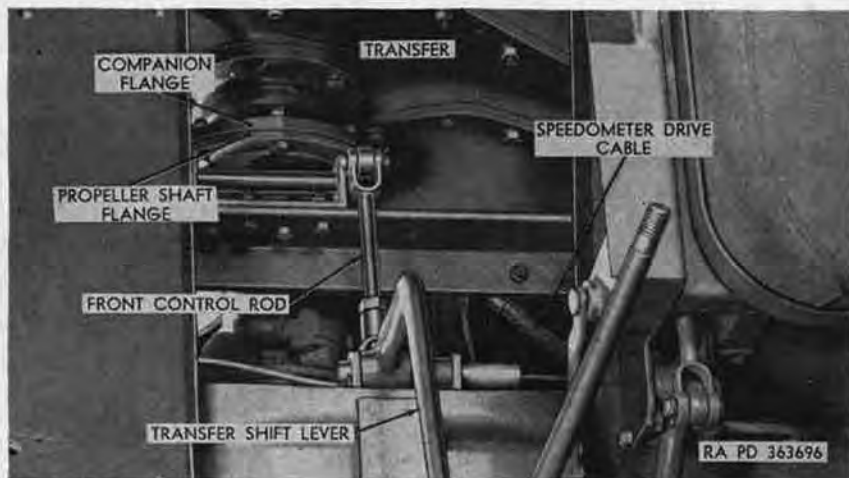
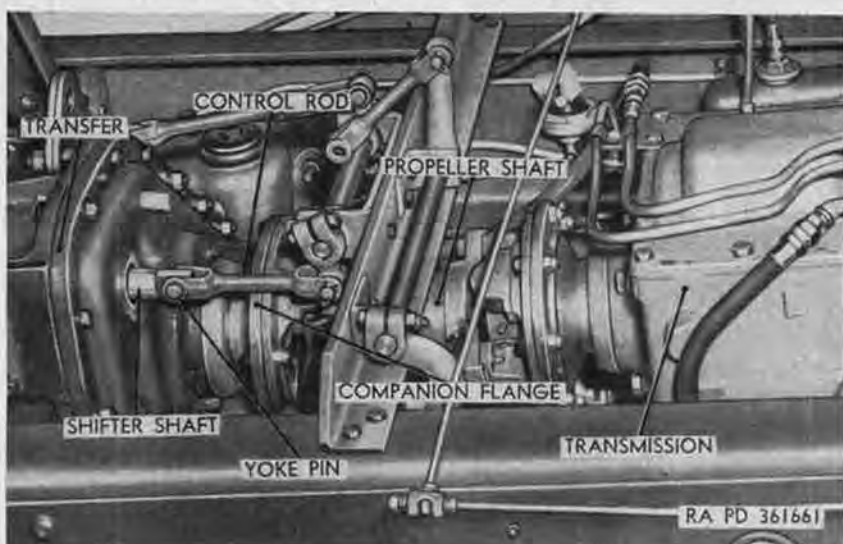

Figure 203. Top view of transfer front end from inside of cab.
Figure 204. Transmission-to-transfer propeller shaft and shift linkage.
- (5) Disconnect transmission-to-transfer propeller shaft from transfer-input-shaft companion flange (fig. 203). Refer to paragraph 211.
- (6) Remove cotter pin from end of control-rod-yoke pin (fig. 204), remove yoke pin, and remove control rod from shifter shaft.
- (10) Position control rod yoke on front end of shifter shaft (fig. 204), and secure with yoke pin and cotter pin.
- (11) Adjust transfer shift linkage as in (a) through (e) below.
- (a) Remove cotter pin and yoke pin securing front control rod (fig. 203) to transfer shift lever.
- (b) Move transfer shifter shaft (fig. 204) toward the rear of the vehicle as far as it will go.
- (c) Place the transfer shift lever (fig. 203) in the HIGH RANGE (par. 27).
- (12) Connect transmission-to-transfer propeller shaft to transfer-input-shaft companion flange (fig. 203). Refer to paragraph 211.